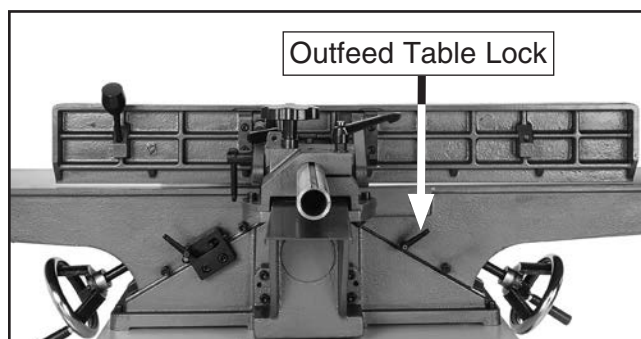

Figure 30. Location of outfeed table lock.
3. Loosen outfeed table lock (see **Figure 30**).